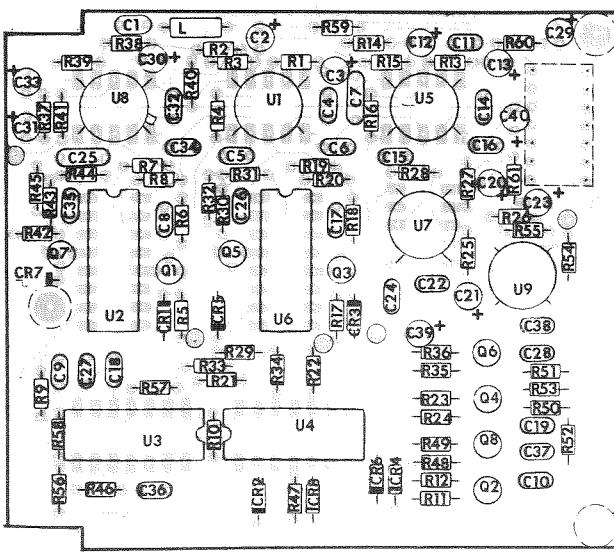

Figure 4-6. Processor PC Board,
7. On Processor PC Board 640-MS-5121, connect scope probe to TP4 (Figure 4-6).
3. Connect scope probe to pins 8, 10 and 12 of the XA4A2 connector (Figure 4-6).